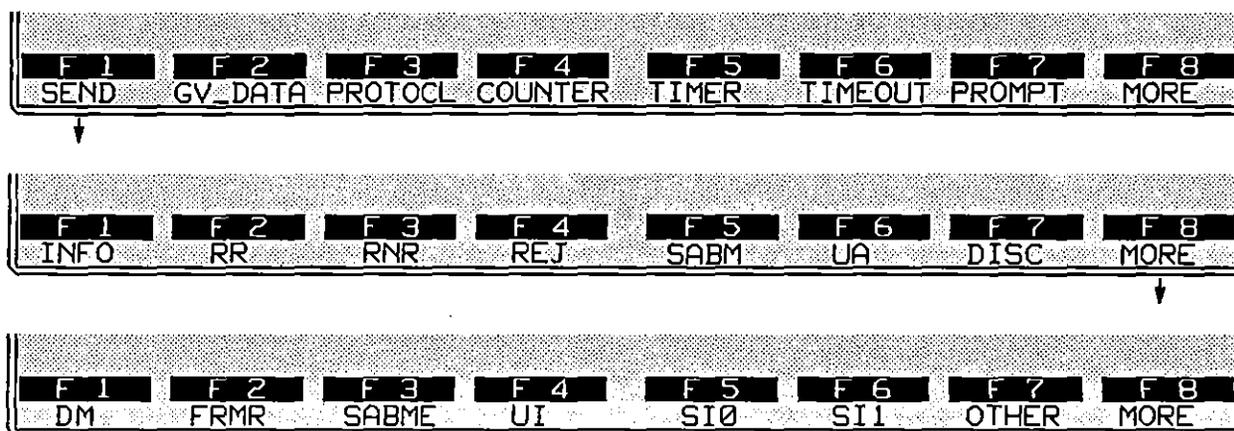

Figure 42-19 SEND actions always specify a frame type.
(Only at Layer 1 can data be generated as a simple character string without any protocol building blocks.) The complete set of frame types is given in Figure 42-19.
5. *Other frames.* Any frame type may be entered in a SEND action as a hexadecimal value instead of by name. Press the softkey for OTHER, on the bottom rack in Figure 42-19.